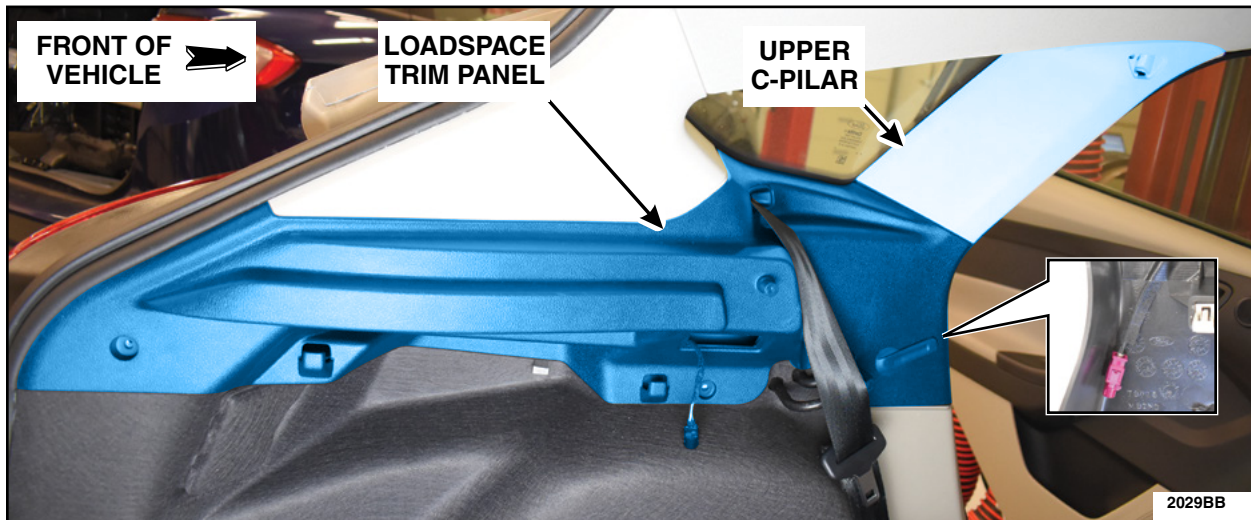

FIGURE 14
15. Connect the coaxial extension cable to the antenna then install the loadspace trim and the upper C-pillar trim panel as an assembly. See Figure 14.